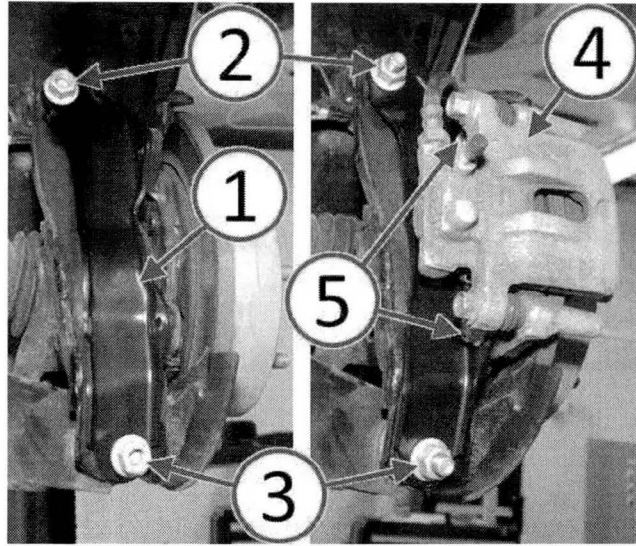

Fig. 3 Install Rear Brake Caliper
9. Install the upper and lower control arm nuts (2, 3) but do not tighten at this time (Fig. 3).
10. Install the brake caliper (4) (Fig. 3).
11. Align the holes in the anti-vibration bracket with the caliper adapter and brake backing plate, then install the NEW longer caliper anchor mounting bolts (5) included with the anti-vibration bracket service kit (Fig. 3).
12. Tighten the caliper anchor mounting bolts (5) to 68 N•m (50 ft. lbs.) (Fig. 3).
16. With the vehicle resting at curb height, tighten the bolt and nut (2, 3) securing the upper and lower control arms to the trailing link to 105 N•m (77 ft. lbs.) (Fig. 3).